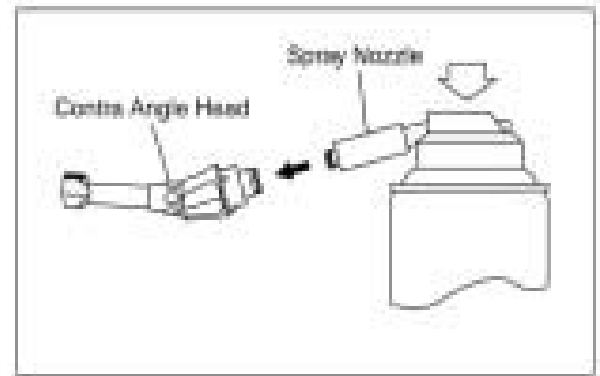

Fig. 12
2. Insert the spray nozzle into the rear part of the contra angle head and lubricate the head for 2-3 seconds. (Fig. 12)